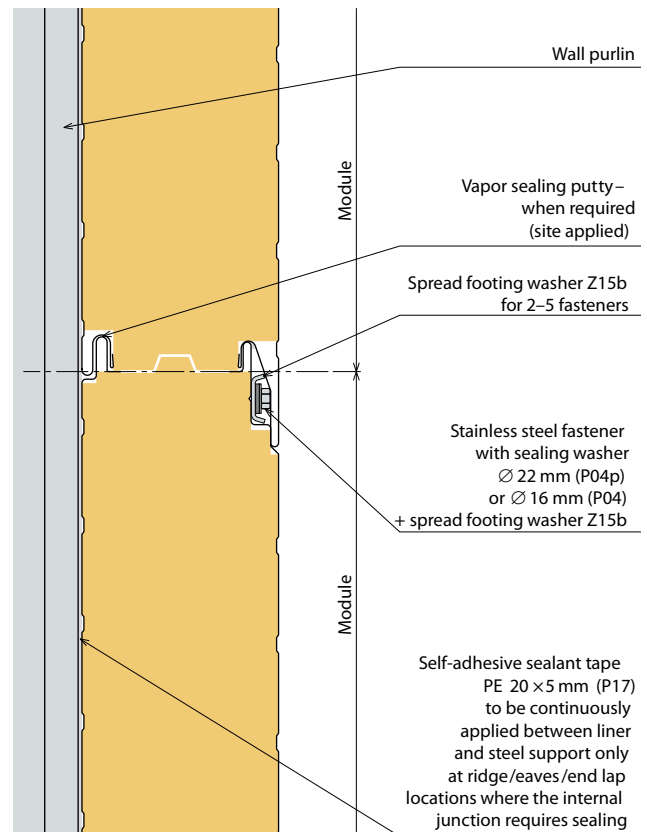

Fig. 54. – Detail D10.13. – Lock and Anchoring of an RH/FH Panel
- If the interior humidity is above the normal level or if this is specifically called for in the implementation documentation, we recommend using vapor -proof tape (diameter 6 mm) or caulking on the lengthwise channel from the interior side of the panel. To meet this requirement it is also vital to apply vapor -proof caulking or sealants on other joints of the wall's surface as well. (see Fig. 54)
- When installing wall panels with secret fixing (FH), original Kingspan Z15b spread are mandatory to use.